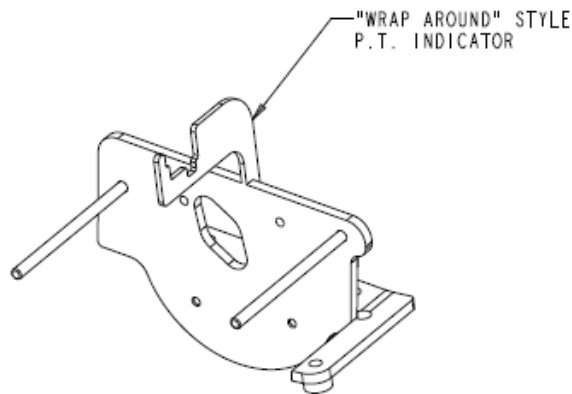

Figure 9. Wrap Around Style P.T. Indicator Assembly
- 7.8.6 If bracket has "wrap around" P.T. indicator, see Figure 9, air actuator bracket must be scrapped regardless of condition.